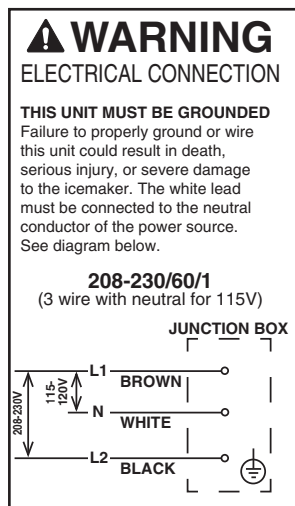

Fig. 10a
- Remote condensing unit electrical connection must be made in accordance with the instructions on the "WARNING" tag provided with the pig tail leads in the remote condensing unit's power supply junction box. See Figs. 10a and 10b.
- 3) Connect the power supply from the disconnect or electrical panel to the leads in the remote condensing unit's power supply junction box. This differs from KM style installations. Connect a ground wire to the ground screw. See Figs. 10a and 10b.